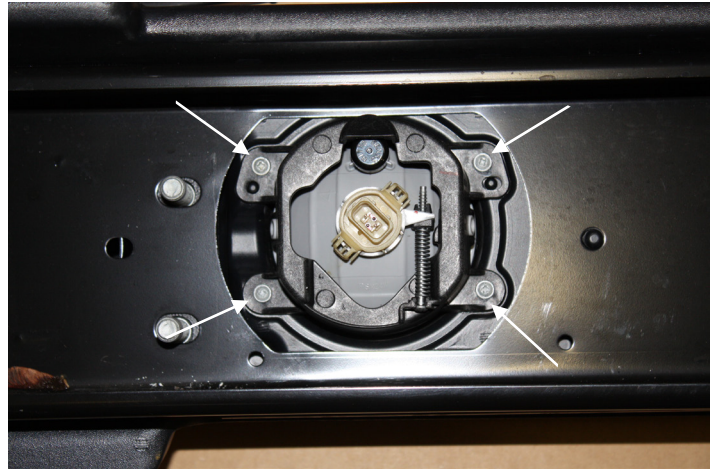

Figure 5
4. Remove the factory fog lamps by removing the 4 Phillips screws around each lamp. Figure 5.